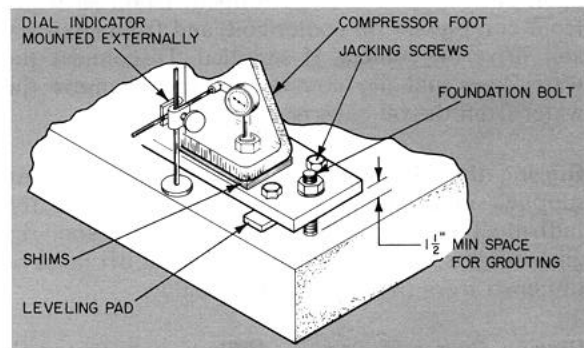

Fig. 5 – Securing Compressor Alignment
1. Mount an externally supported dial indicator (Fig. 5) against the compressor foot and set indicator at zero to allow plus or minus readings.